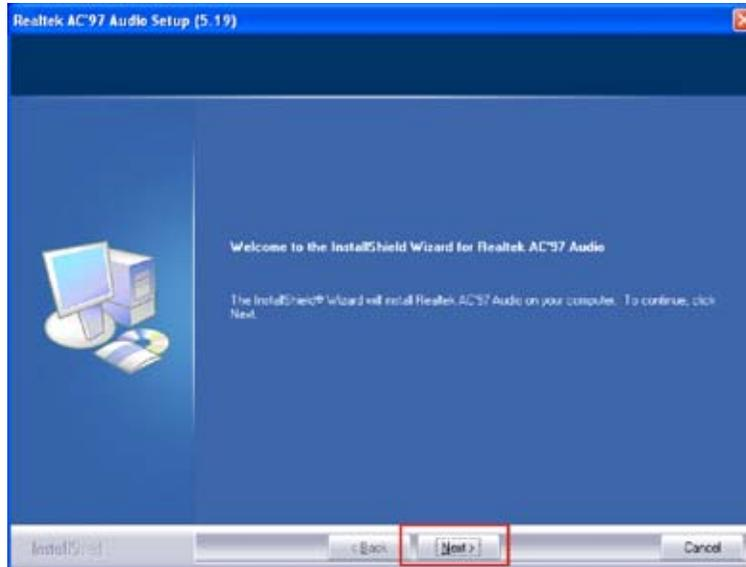

Figure 6-22: AC'97 Driver Installation Welcome Screen
Step 50: The AC'97 Driver Installation screen in Figure 6-22 appears.